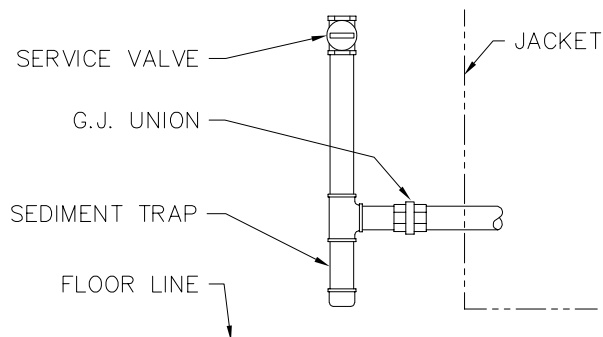

Figure 4.1: Gas Connection to Boiler
5. Install a sediment trap. See Figure 4.1. Locate a tee in the drop pipe at same elevation as the gas inlet connection to the boiler. Extend the drop pipe to a pipe cap.
6. Install a ground joint union ahead of the gas control assembly to permit servicing of the control. Install a service valve as shown in Figure 4.1.